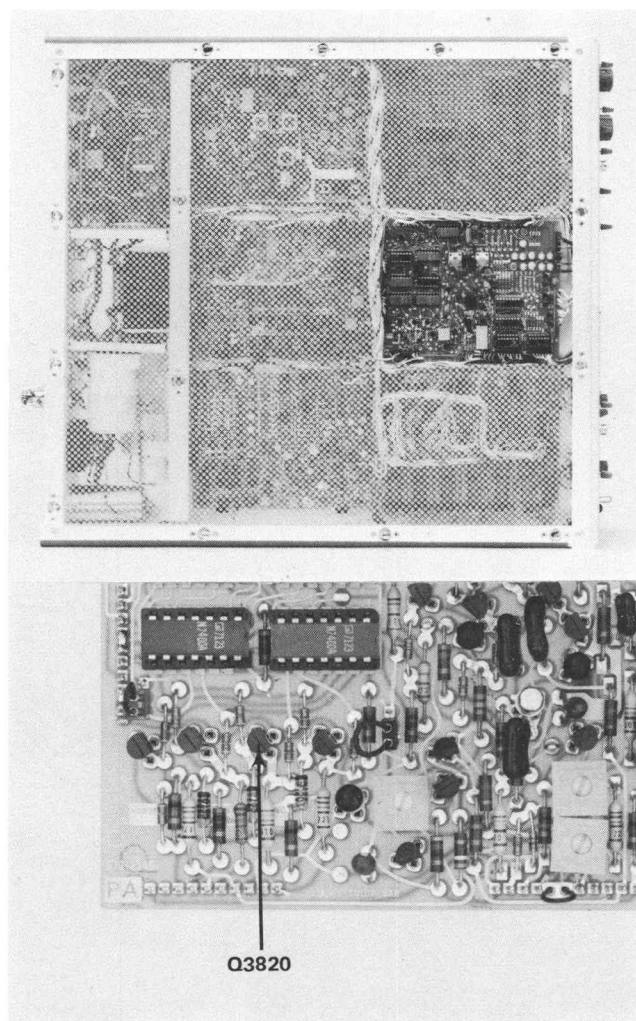

Fig. 4-9. Q3820 location.
b. Connect a 10X probe to the collector of Q3820, see Fig. 4-9. Set the test oscilloscope to view only the signal via the 10X probe using internal triggering. Do not use AUTO triggering.